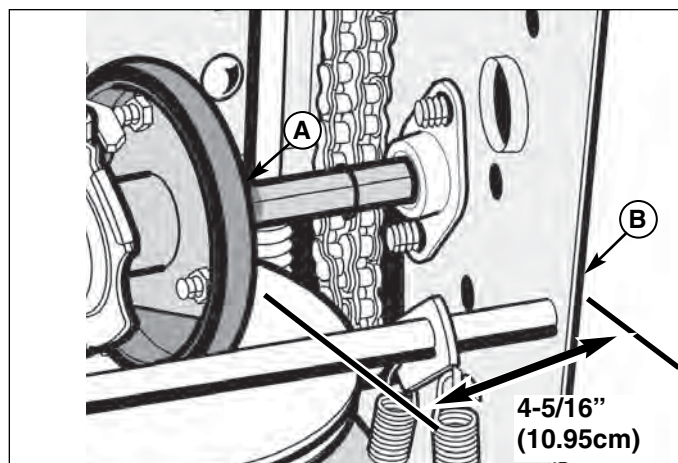
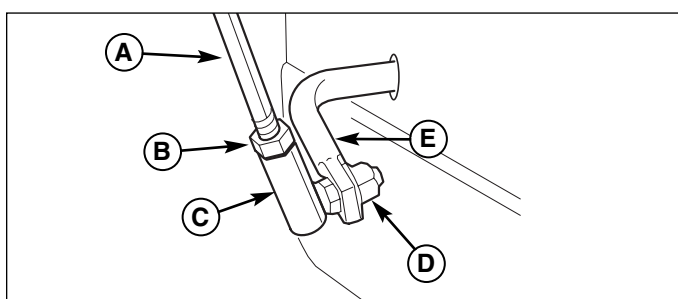

Figure 18. Friction Disc Measurement
Figure 19. Speed Selector Linkage
5. Note the position of the friction disc (A, Figure 18). The correct distance from the right side of the friction wheel to the outside of the frame is 4-5/16" (10.95 cm). If the friction disc is not in the correct position, adjust as follows.
7. Loosen the jam nut (B, Figure 19).
8. Remove locknut (D).
9. Move the friction disc (A, Figure 18) to the correct distance, 4-5/16" (10.95 cm).